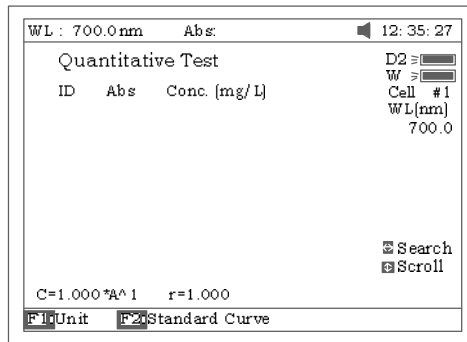

Fig 26
Press **【2】** in Main Menu for “Quantitative” Test (Fig 26). Press **【ESC/STOP】** to exit.
Note: .If no automatic changer installed “cell #1” will disappear in Fig26.
3. Press **【F2】** in Fig 26 for more items to select .See Fig 29.